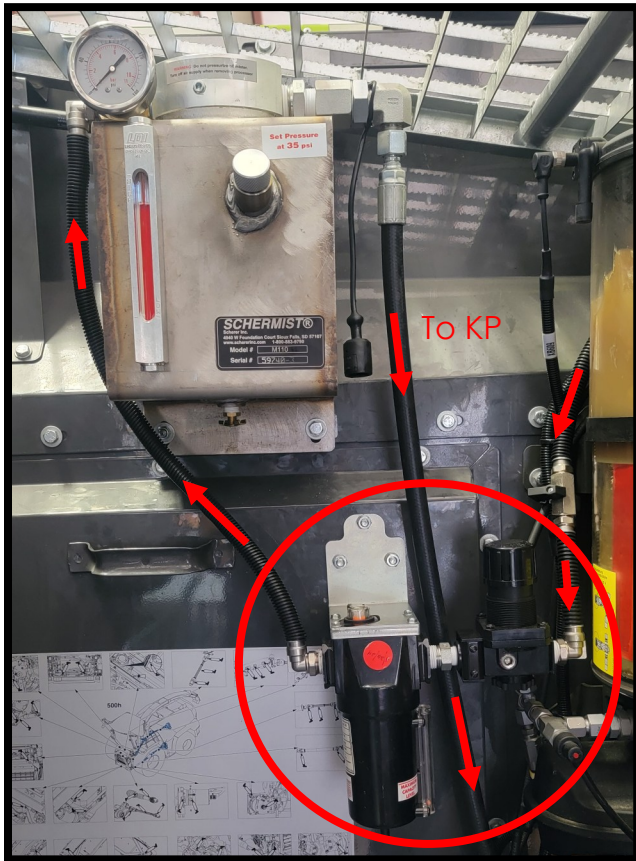

Figure 1
1. First position the coalescing filter as circled in Figure 1 to not obstruct the factory diagram and to not interfere with the greaser. Once located, mark the hole positions.
7. The airlines are routed as shown in Figure 1 (arrows) to connect the filter and oiler. The air line on the right side of the oiler can be routed to the KP.